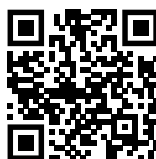

Fig. 86
- ▶ Åbn Liebherr SmartMonitoring Dashboard. (se Fig. 86)